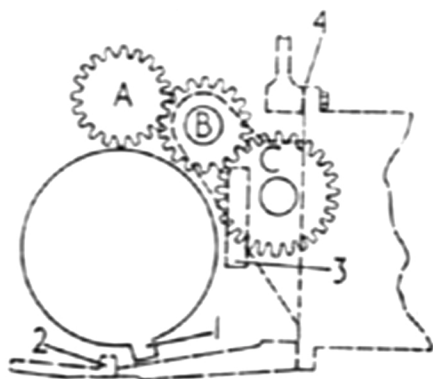

Fig. 21—Drawing showing mainshaft gear (A) and transfer case idler gears (B and C).
Measure backlash between idler gears (13 and 15). Using a 0.032 inch thick gasket (7), install transfer case on tractor, making sure tang on pto brake (1—Fig. 21) is between stop (2) in range transmission housing and stop (3) on the transfer case. Tighten the seven attaching cap screws to a torque of 35 ft.-lbs. Apply the transmission park